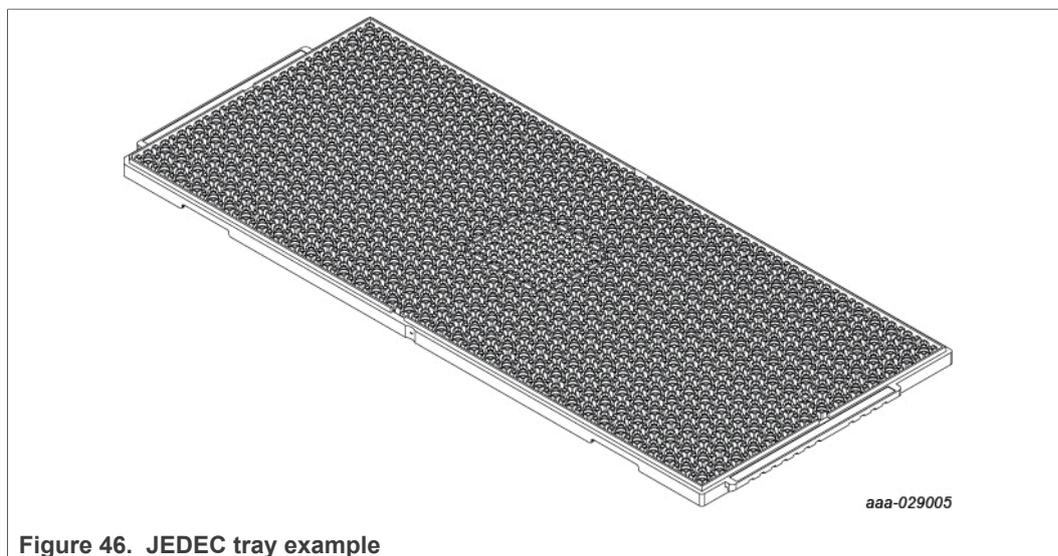

Figure 46. JEDEC tray example
- NXP complies with standard JEDEC tray design configuration (see Figure 46).
| Fig. 23. | SMT process flow | 18 | Fig. 46. | JEDEC tray example | 43 |